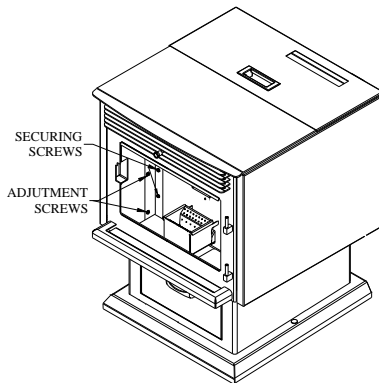
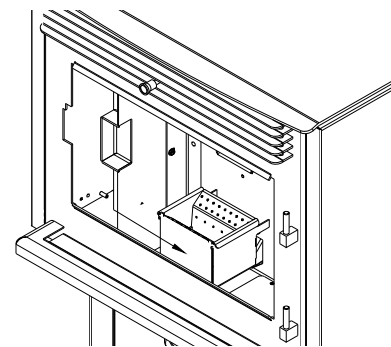
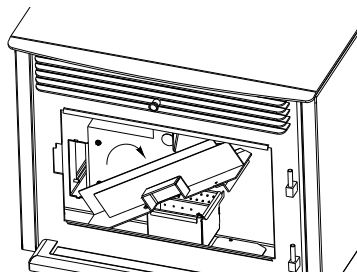
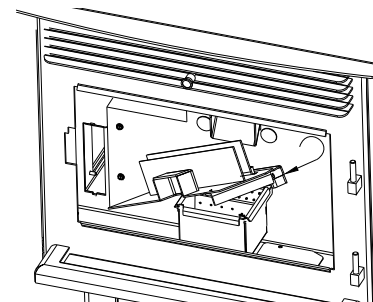

Figure 44
Figure 45
Figure 46
Figure 47
- c. **Chamber walls:** Periodically, you must vacuum the ashes that may have accumulated on the main walls of the combustion chamber. **START BY REMOVING THE DECORATIVE MASONRY-LIKE PANELS, WHICH ARE SIMPLY HELD BY CLIPS.** The use of a vacuum is necessary. There is also a cleaning outlet located behind the left side panel of the combustion chamber. Remove this panel using a screw driver. Loosen the adjustment screws then remove the securing screws(Figure 44). Slide the wall toward right(Figure 45), tilt it (Figure 46) then remove it from the combustion chamber. Scrape off ashes. You will notice a small rectangular cleaning outlet. Inspect behind this outlet (see Figure 47) Insert the vacuum tip through the cleaning outlet and clean thoroughly. **REPEAT THIS OPERATION AT LEAST ONCE PER TON OF PELLETS BURNED UNTIL YOU ARE FAMILIAR WITH HOW ASHES ACCUMULATE WITH YOUR OPERATING PRACTICES.**